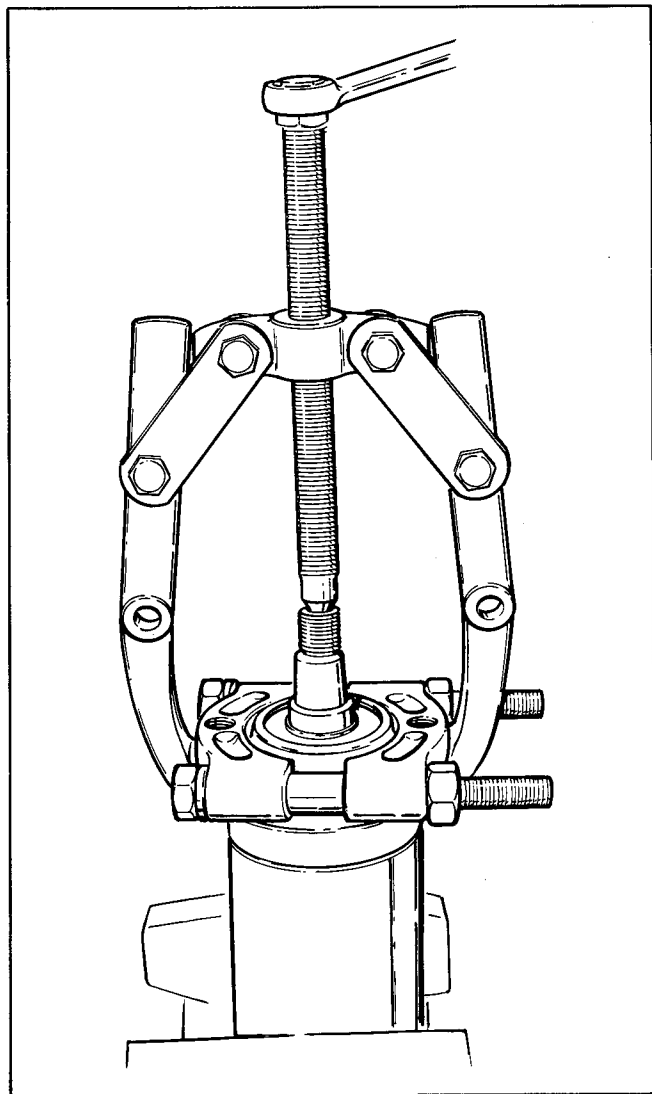

Figure 93 – Removing Armature Bearings
- e. To separate commutator bearing (19) or drive end bearing (19A) and spacers (20) from armature (11), use claw puller tool and wedge attachment tool. See Figure 93.